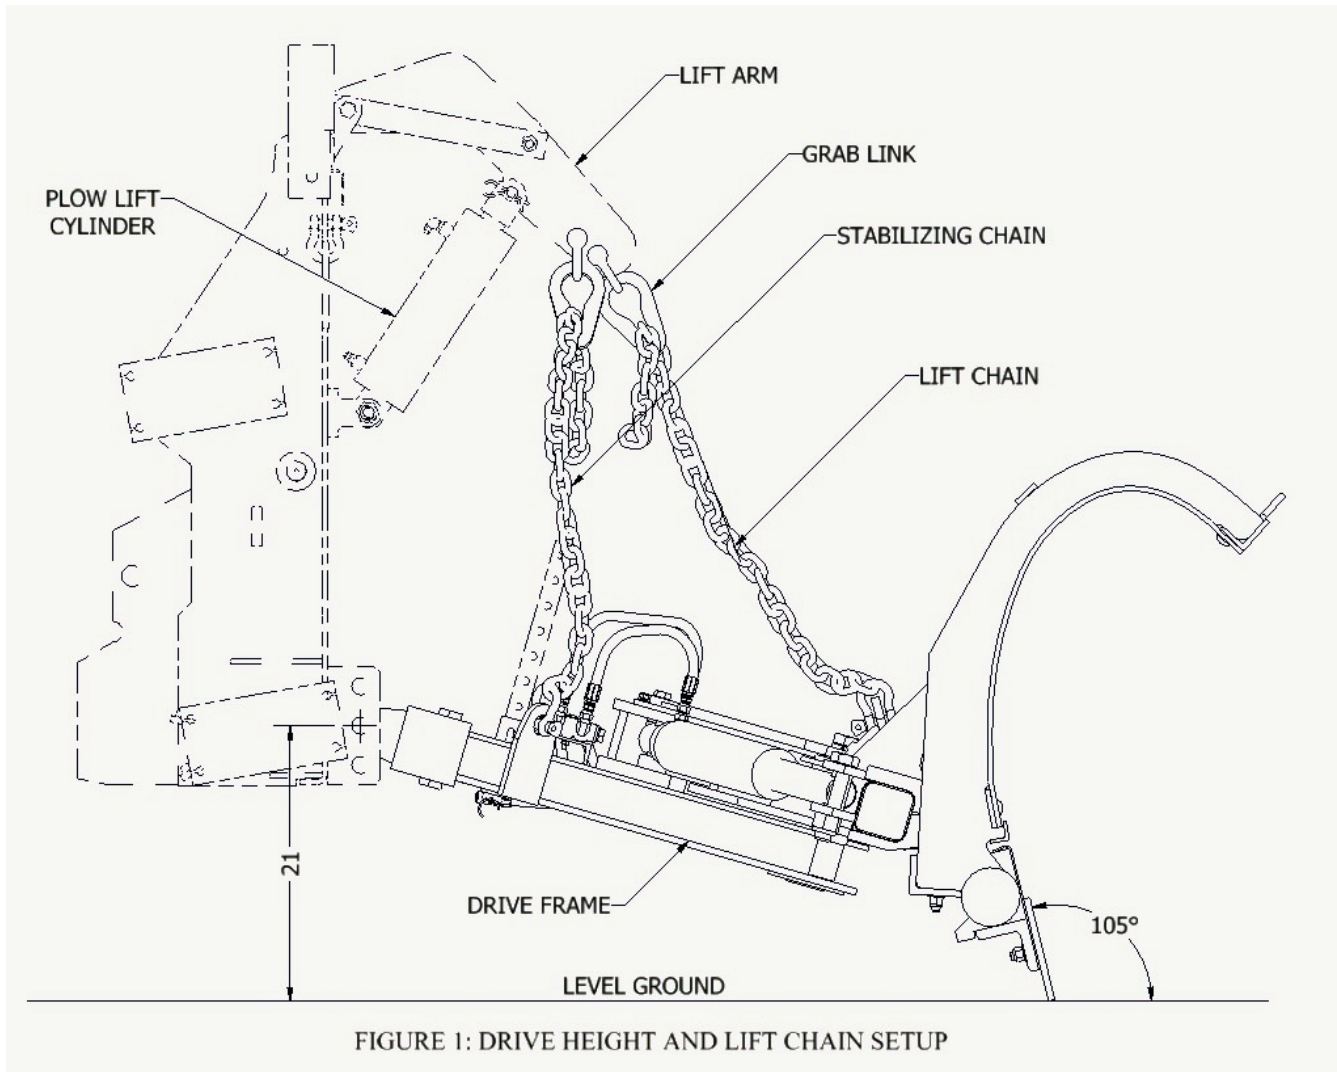

FIGURE 1: DRIVE HEIGHT AND LIFT CHAIN SETUP
During the initial installation of the plow to the vehicle, some adjustments will be necessary to insure proper operation of the plow and trip mechanisms. It is Viking-Cives recommendation that the plow is set to run at an approach angle of 105 degrees, as shown in figure 1. **NOTE: When plow is being raised, lowered or reversed - stand clear!**
1. Set plow unit on level surface with moldboard in the bulldoze position; adjust drive height to approximately 21" as shown in figure 1.